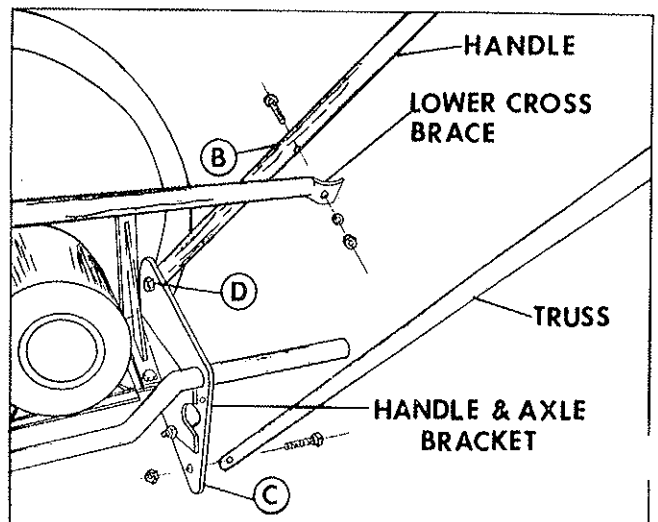

Figure 2
6. Assemble the two trusses to bottom holes of the right and left handle and axle brackets Ref. No. 23 & 15 with bolts and nuts Ref. No. 4 and 22, Fig. 5 making sure a steel insert Ref. No. 26, Fig. 5 is in the end of each truss as shown at Point "C" Fig. 2. **DO NOT TIGHTEN.**
7. Assemble the two handles to top holes of the right and left handle and axle brackets Ref. No. 23 & 15 with bolts and nuts Ref. No. 14 and 22, Fig. 5 making sure steel inserts Ref. 26, Fig. 5 is in the end of each handle as shown at point "D", Fig. 2. **DO NOT TIGHTEN.**